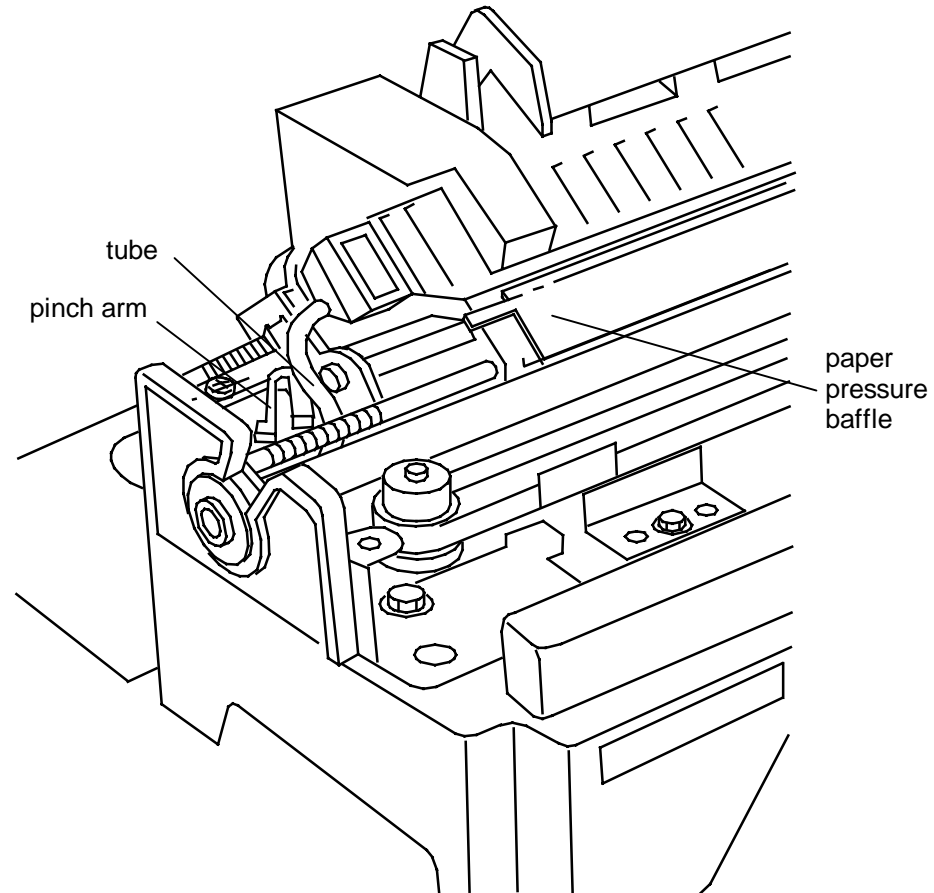

Figure 2.
7. Ensure tube is routed between the pinch arm and the Maintenance Station body (Figure 2).